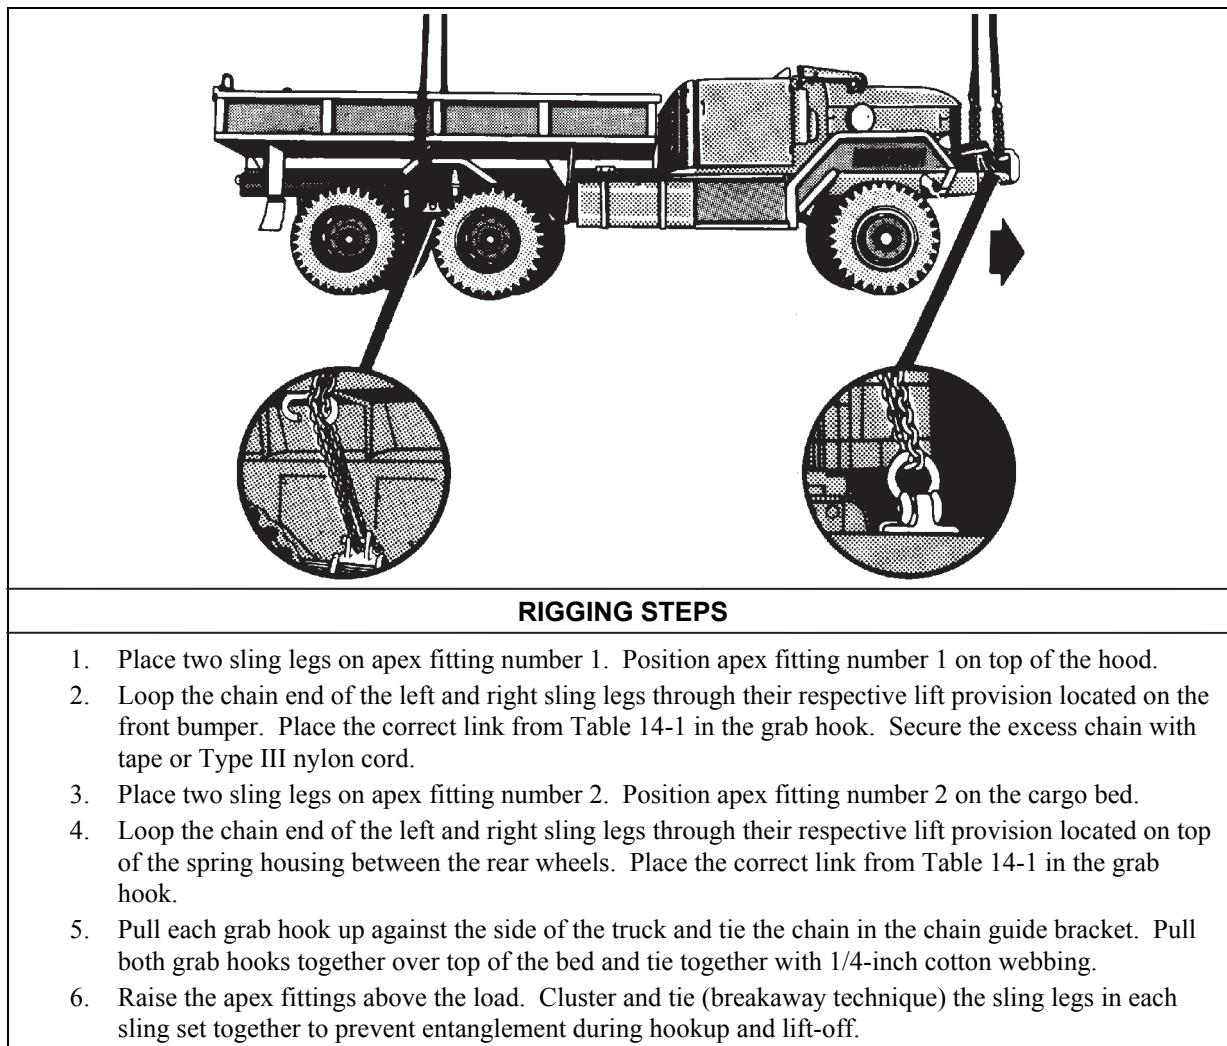

Figure 14-1. M35A1/A2 2 1/2-Ton Cargo Truck
- **Rigging.** Rig the load according to the steps in Figure 14-1.